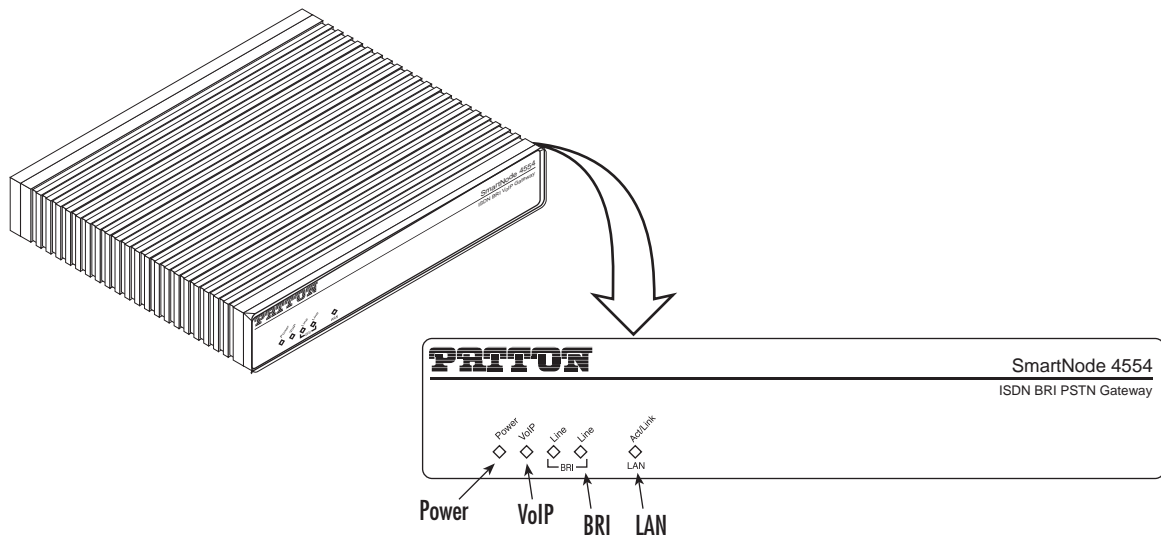

Figure 7. Router front panel LEDs
4. Verify that the green *Power* LED is lit (see figure 7).